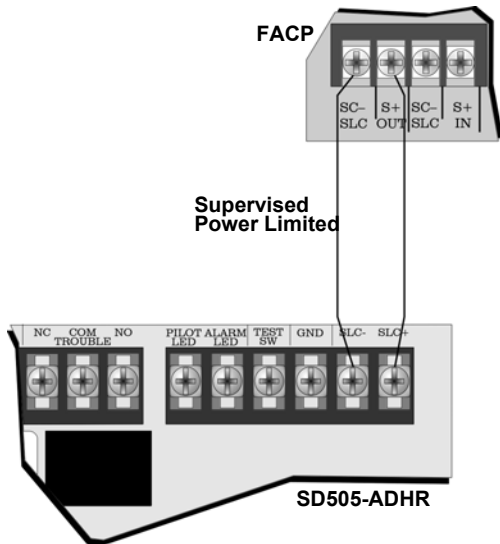
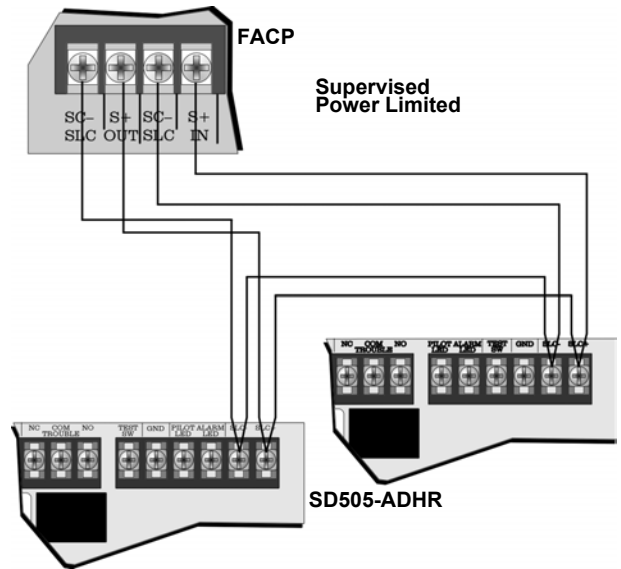

Figure 5: Class B (Style 4)
Figure 6: Class A (Style 6)
2. Wire the SD505-ADHR as show in Figure 5 or Figure 6.